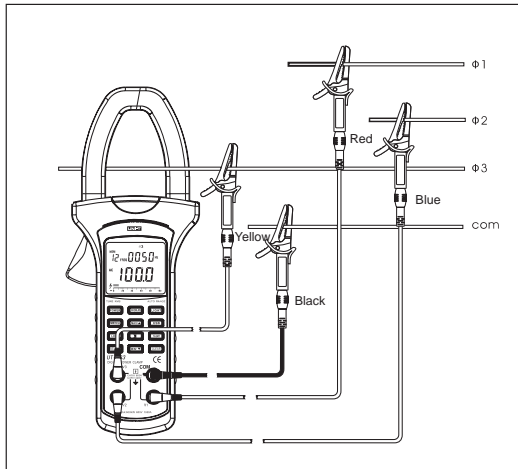

Figure 4
A. Active power (main display) + AC Voltage (left secondary display) + AC Current (right secondary display) Measurement (see figure 4)
3. Connecting method (see figure 4, 5, 6).
- **When measuring 3 phase 4 wires, connect the Meter as figure 4.**
3. The connecting method of 3 phases 4 wires, 3 phases 3 wires or single phase 2 wires, see figure 4, 5 and 6.